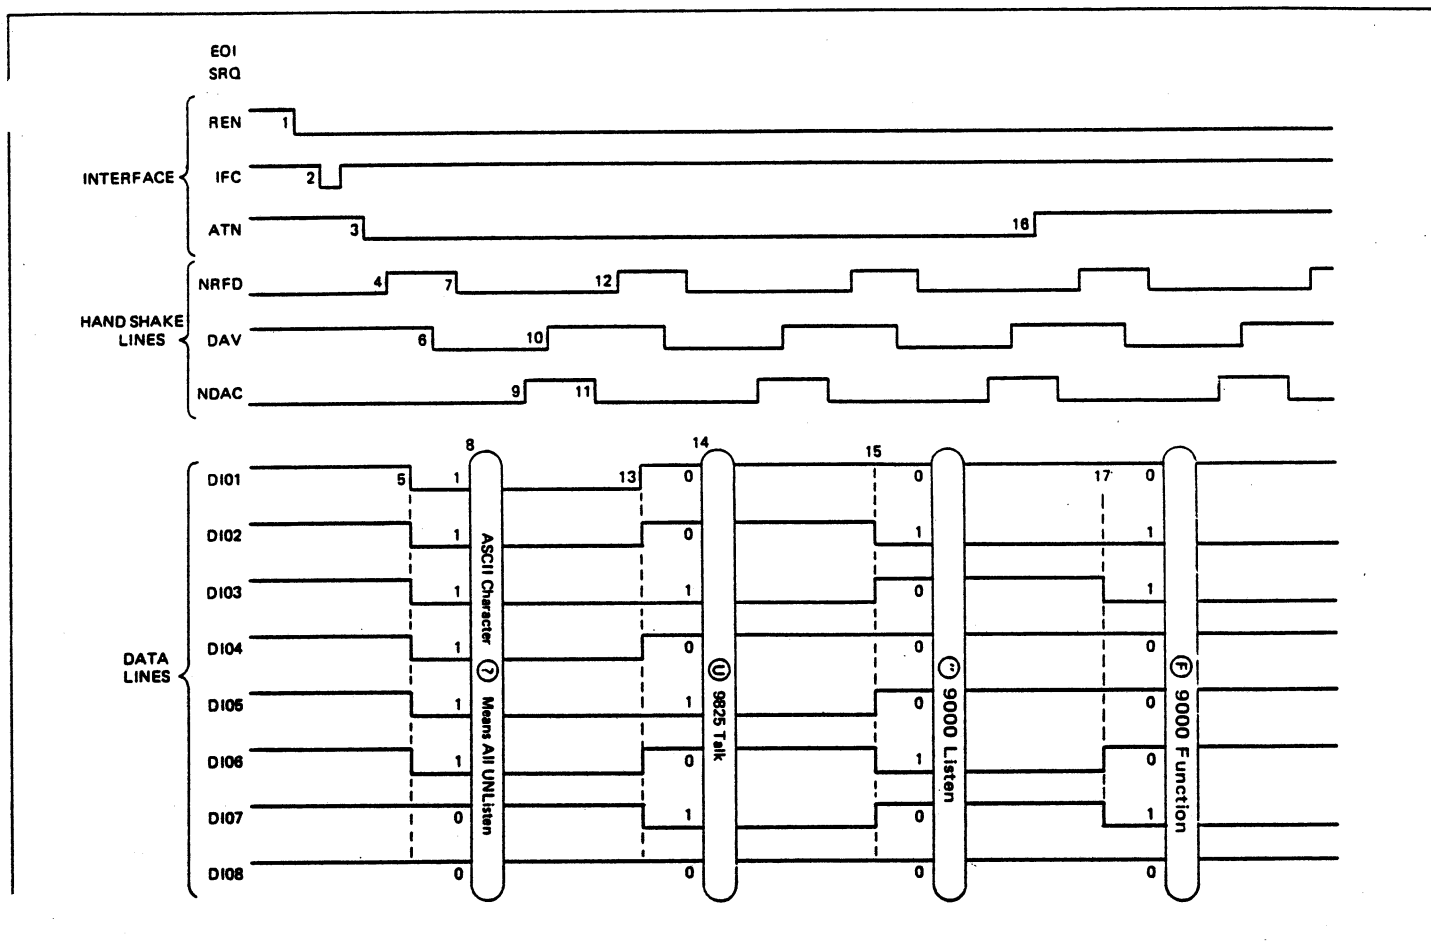

Figure 3.4 - Handshake Timing
timing chart (Figure 3.4) illustrates the sequence of the transmission of device dependent messages to the counter to cause it to measure the frequency of a measurement signal applied to channel A and transmit the resultant measurement data to the controller by the interface bus.
3.2.6.3 A timing chart (Figure 3.4) is included to illustrate the condition of each individual bus line at each stage of the data transfer operation. Note that the timing chart includes numbers adjacent to each level change; these numbers refer to the individual line entries of the table. The